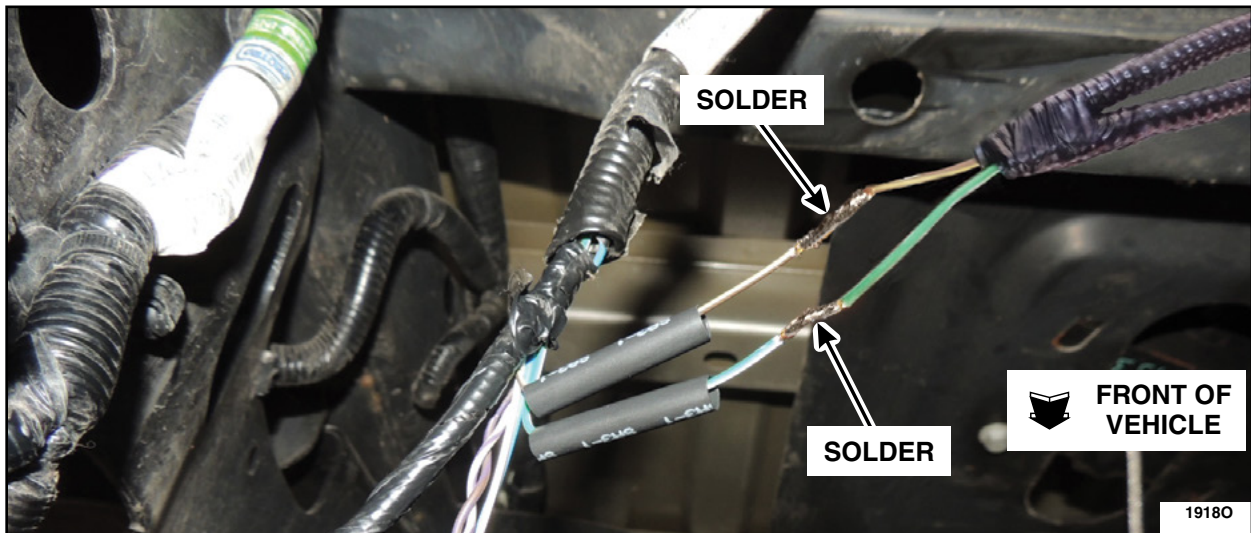

FIGURE 12
15. Solder the twisted wires of the female connector. See Figure 12.